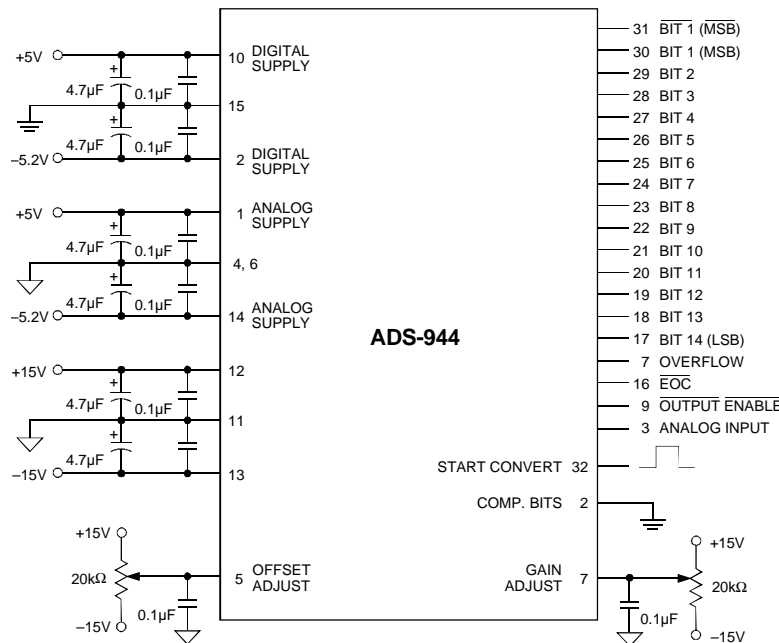

Figure 2. ADS-944 Connection Diagram
- The ADS-944 achieves its specified accuracies without the need for external calibration. If required, the device's small initial offset and gain errors can be reduced to zero using the adjustment circuitry shown in Figure 2. When using this circuitry, or any similar offset and gain-calibration hardware, make adjustments following warmup. To avoid interaction, always adjust offset before gain.
(Refer to Figure 2 and Table 1)
Any offset and/or gain calibration procedures should not be implemented until devices are fully warmed up. To avoid interaction, offset must be adjusted before gain. The ranges of adjustment for the circuit in Figure 2 are guaranteed to compensate for the ADS-944's initial accuracy errors and may not be able to compensate for additional system errors.